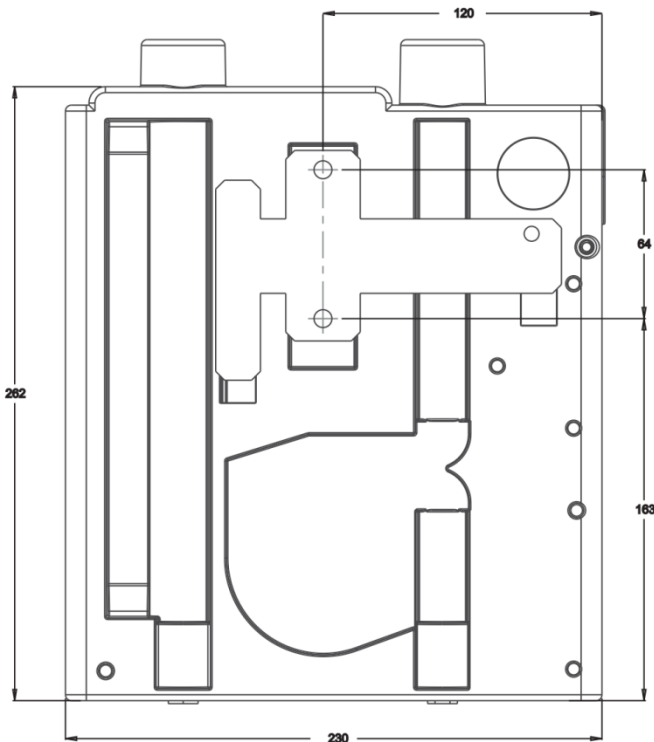

Figure 2: Mounting Slots for Mounting Studs
2. line up the unit with the three (3) mounting clips and the mounting studs on the left side.
3. push the unit down onto the mounting clips and secure it with the supplied washer and nut on at least one of the two mounting studs protruding through the mounting slots shown in Figure 2.